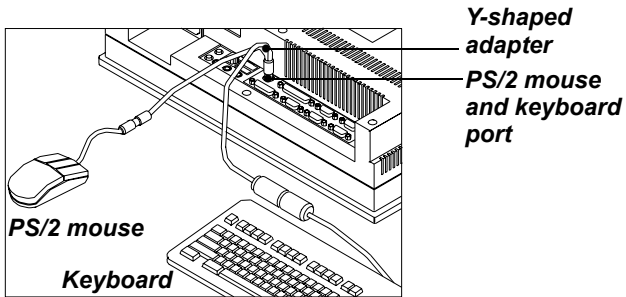
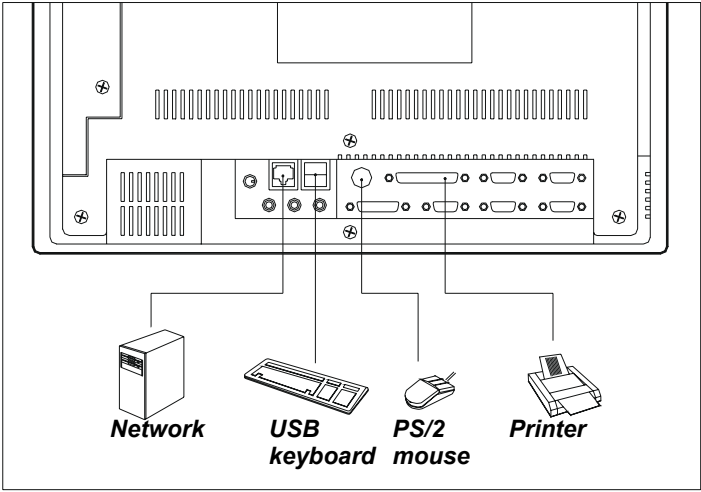

Figure 2.6: Connecting the keyboard and mouse
Figure 3.4: I/O interface (excluding COM ports)
1. Connect the Y-shaped adapter to the PS/2 mouse and keyboard port on the I/O section of the panel PC. (See Fig. 2-6.)
2. Connect the PS/2 mouse and keyboard to the Y-shaped adapter. (See Fig. 2-6.)
2. Connect the Y-shaped adapter to the PS/2 mouse and keyboard port on the rear bottom side of the rear cover. (See Fig. 3-4 and Fig. 2-6.)
3. If necessary, attach the other end of your printer cable to your printer, and fasten any retaining screws. A typical parallel printer connection is illustrated in Fig. 3-4.
1. Connect the external device to the system. (See Fig. 3-4.)
2. Connect the external device(s) to the panel PC. (See Fig. 3-4.)